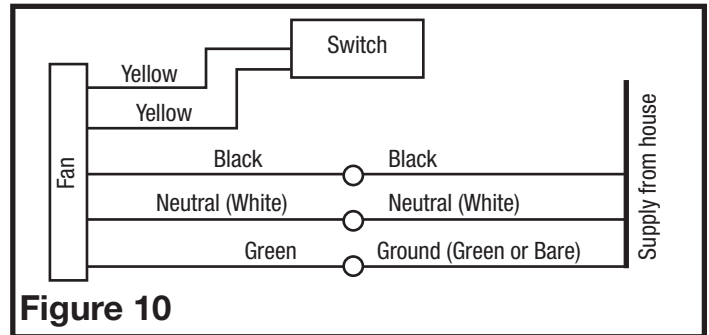

**Figure 9**
3. For two speed fans wired for continuous ventilation, connect the White wire of the fan to the White (Neutral) wire from the power source. Connect the ground wire from the house to the green wire from the fan housing. Connect the Black wire of the fan to the Black wire (Hot) from the power source. The fan will operate on low speed continuously and boost to high speed when motion is detected. Using a properly grounded standard duplex toggle switch (such as Leviton 5224-2W, not included) connect the black wire from the supply to one side of the top and bottom switch. A manual override switch (not included) can be used to provide a manual fan Off function (**Figure 9**).